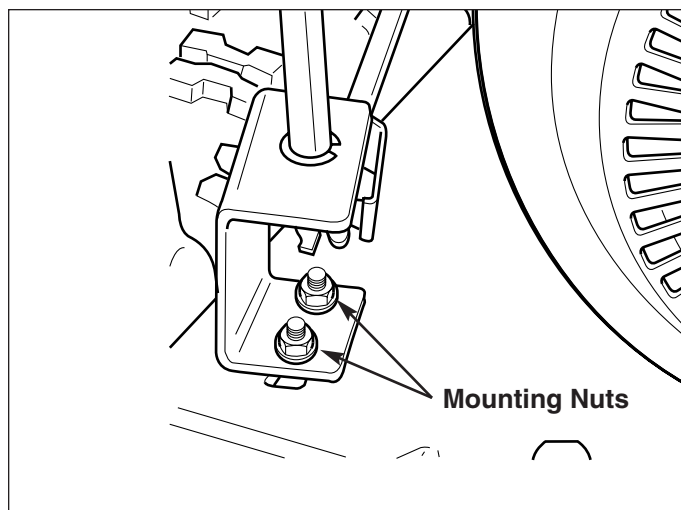

Figure 22. Chute Direction Gear Adjustments
1. Loosen the gear bracket mounting nuts (Figure 22).